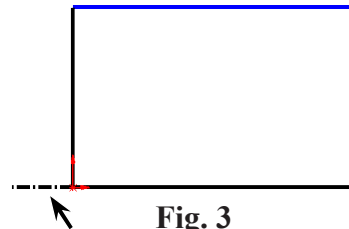
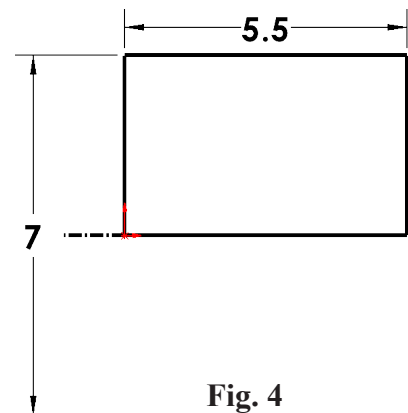

Fig. 3
Fig. 4
Step 6. Sketch **horizontal centerline** from **Origin**  , **Fig. 3**.
Step 7. Click **Smart Dimension**  (S) on the Sketch toolbar.
Step 8. Add dimensions, **Fig. 4**. Dimension **double distance** 7. To double distance dimension, click centerline and then top horizontal line, move the cursor below centerline (Origin) and click. Key-in 7 in the Modify box and press ENTER.
Step 9. Click **Line**  (L) on the Sketch toolbar.